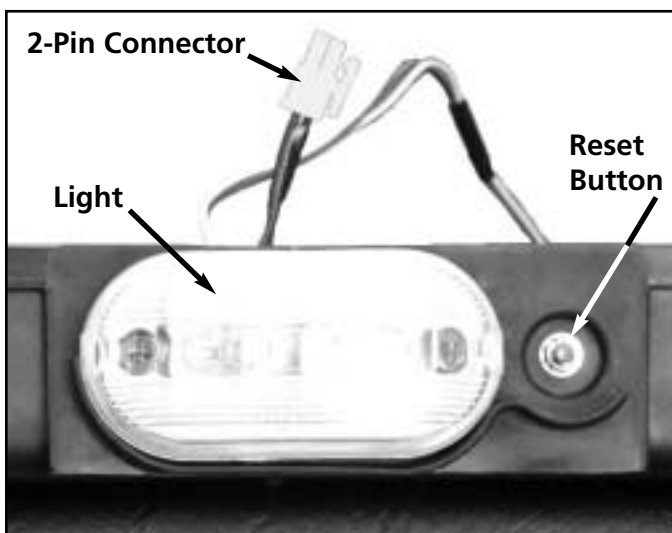

Figure S-53
8. Disconnect the 2 pin connector for the light. See figure S-53.
9. Remove the RKE reset button from the motor cover by loosening the 8mm retainer nut. See figure S-53.
13. Install the RKE reset switch into the motor cover and fasten with the 8mm nut. Refer back to figure S-53.
14. Connect the 2 pin wire connector for the light. Refer back to figure S-53.